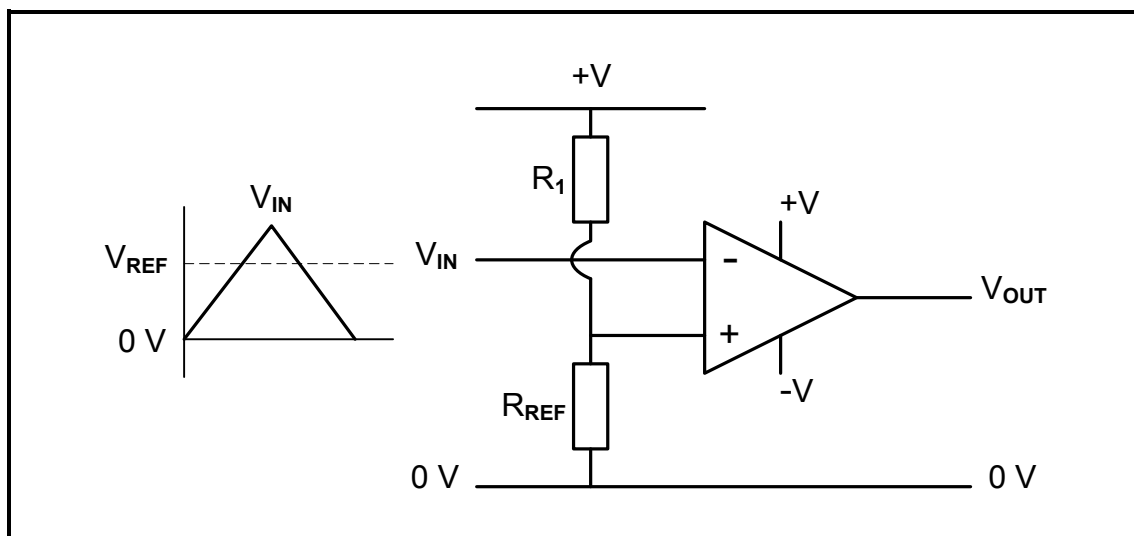

FIGURE 2.6: COMPARATOR
- 2.6 FIGURE 2.6 shows the 741 op amp as a comparator. Answer the questions that follow.
- 2.6.3 Draw the output signal on ANSWER SHEET 2.6.3, with reference to the input signal in FIGURE 2.6. (3)